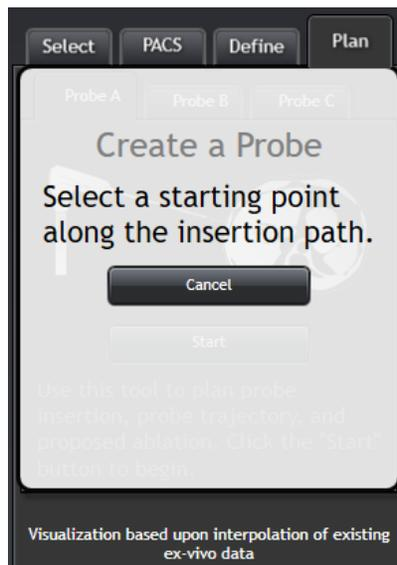

Figure 3-22: Create a Probe display to indicate that the ABLATE-IQ Software is ready to select the probe's starting point.
3. The system is now ready for the user to select starting and ending points along a probe's pathway. A window prompts the user to select the starting point of the probe based on the targets previously created on the images (Figure 3-22).